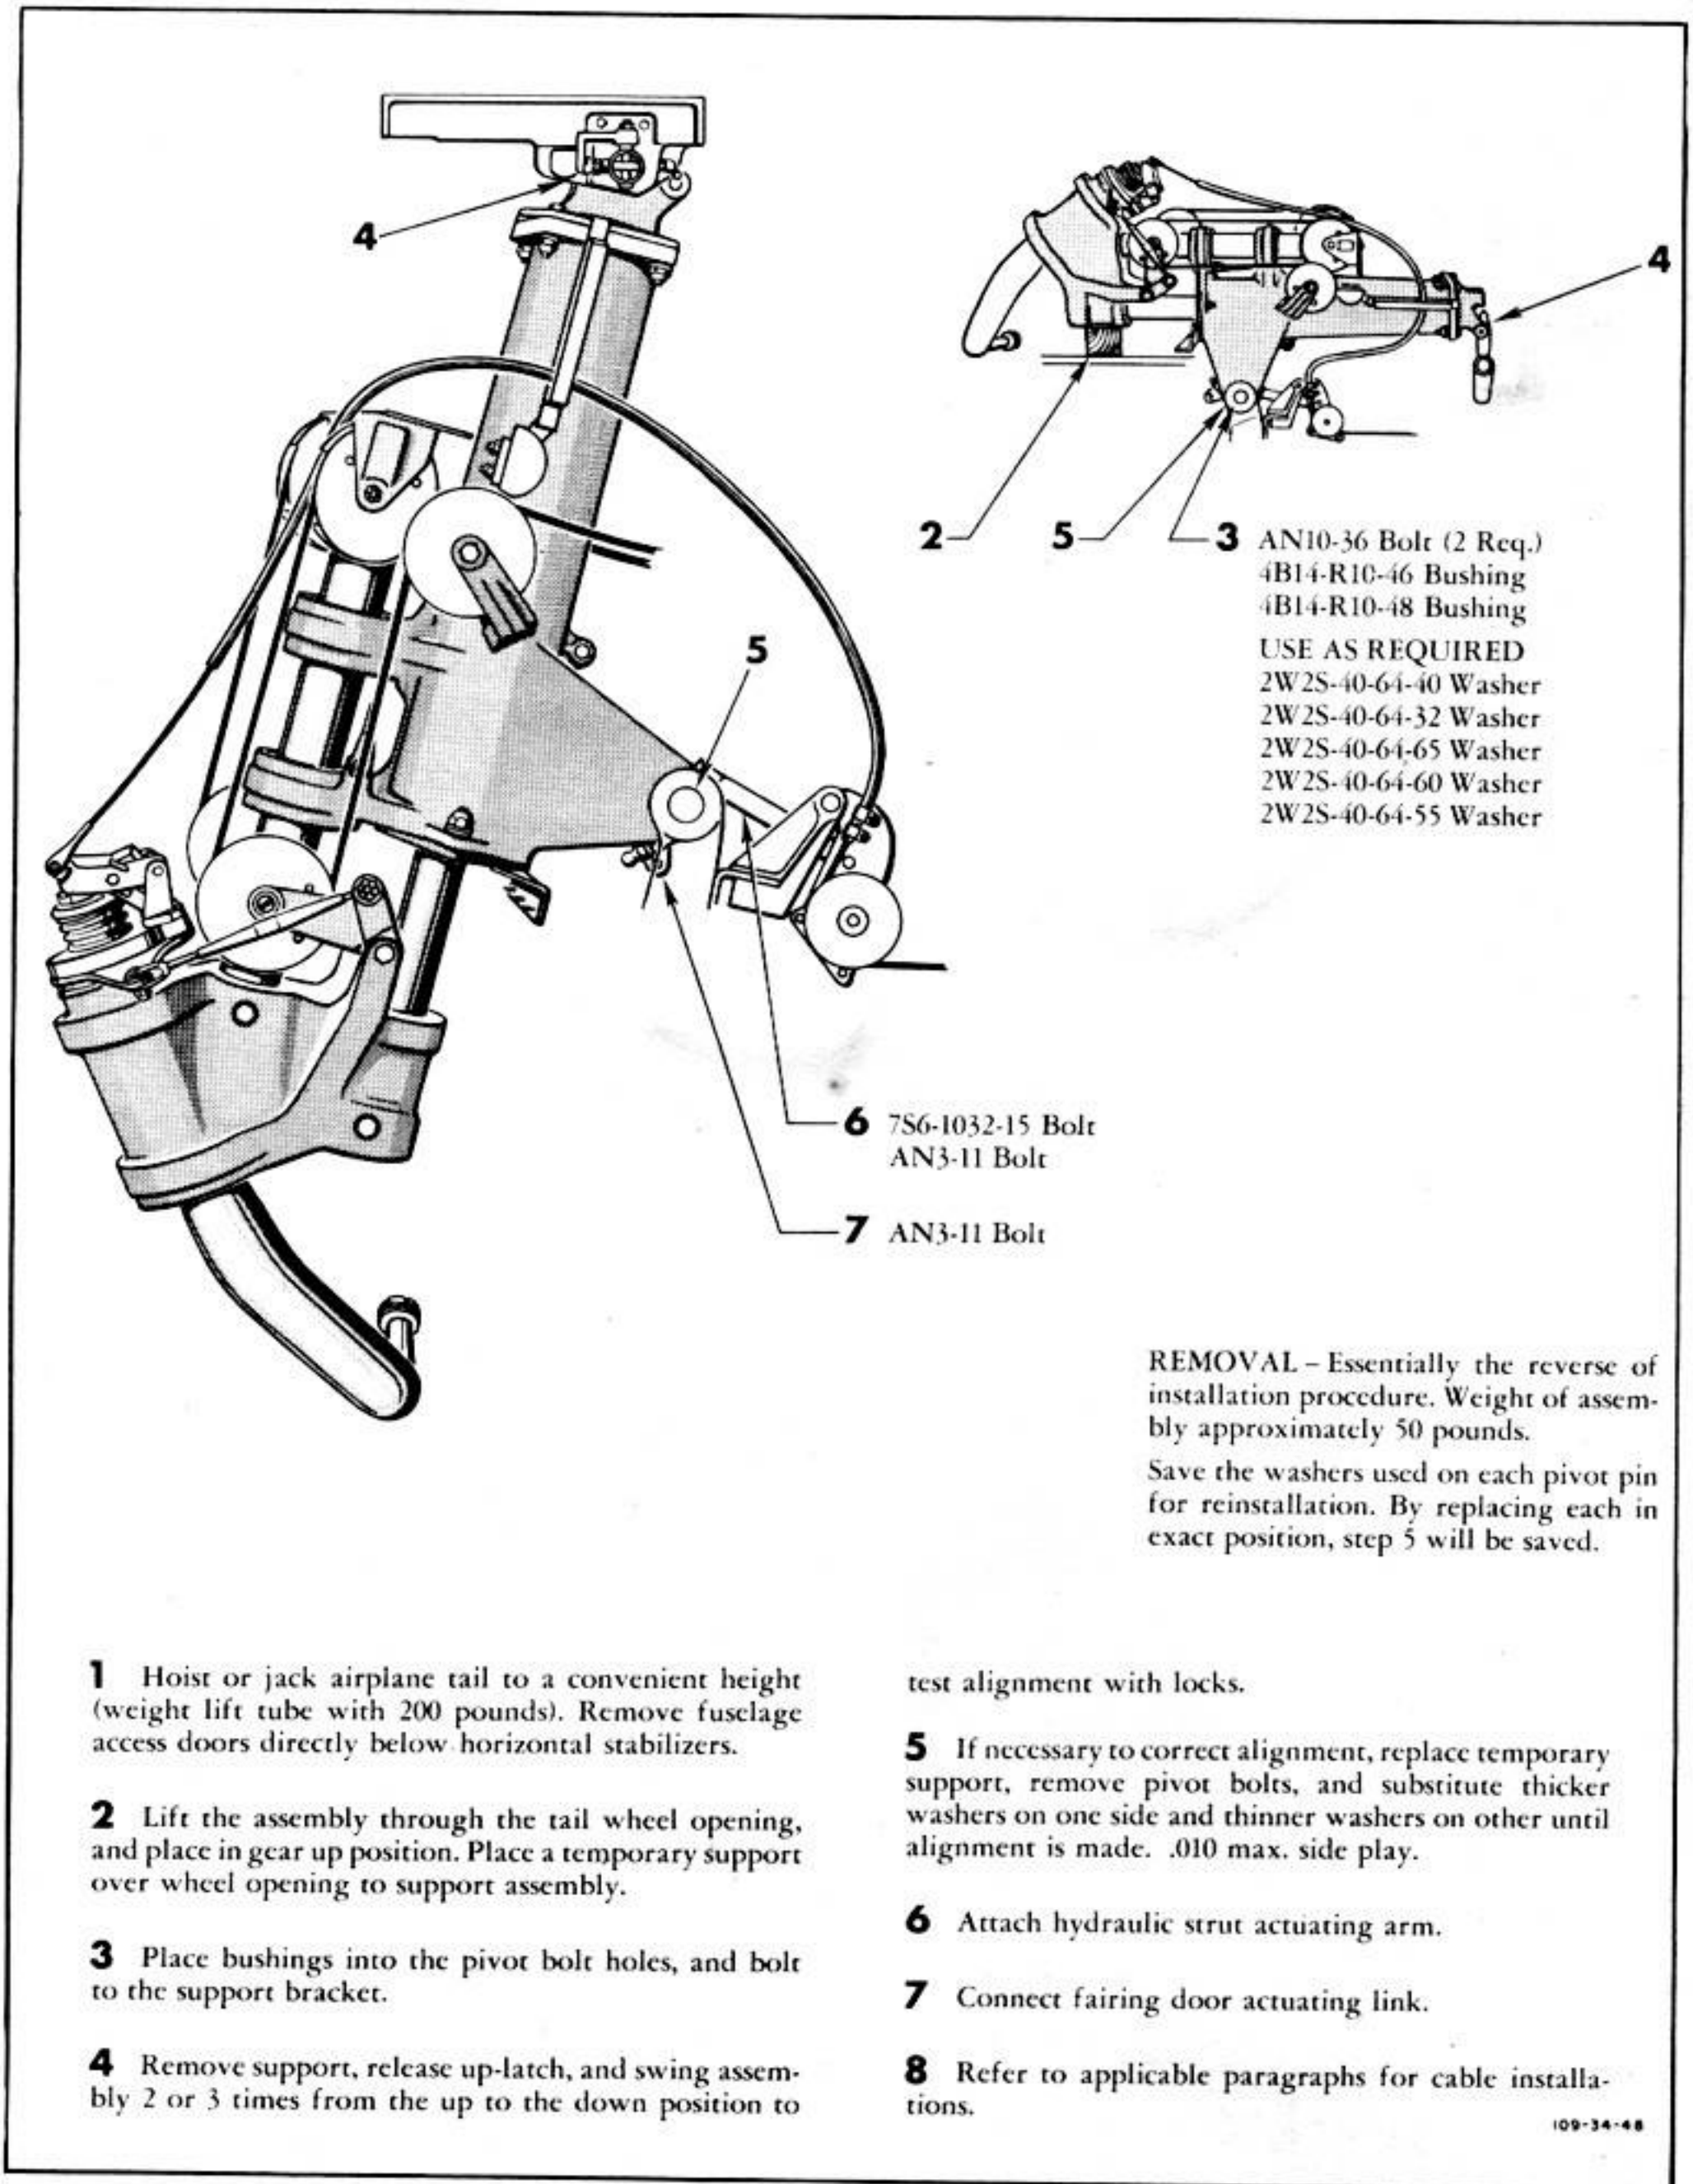

Figure 140—Installing Tail Gear Assembly
engages the down-lock when the gear is extended. A de-clutching mechanism is installed on the post assembly at the top of the post assembly housing. (See figure 140.)
(3) **REMOVING AND INSTALLING TAIL GEAR ASSEMBLY.** (See figure 140.)